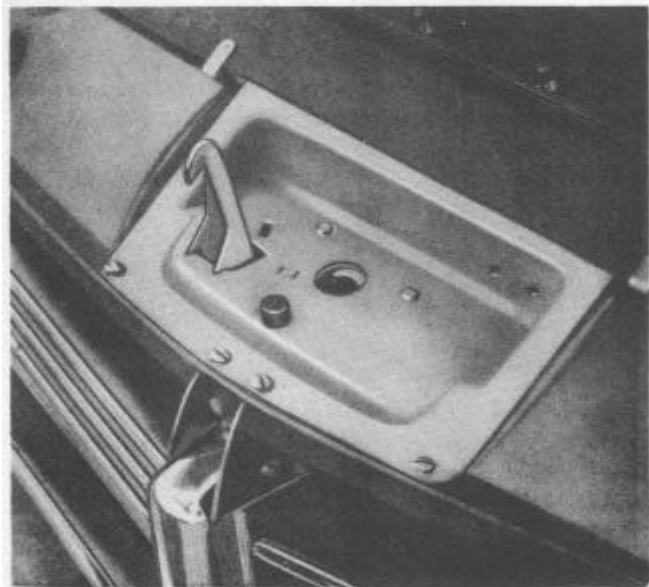

FIGURE 21
1. Remove the rear view mirror (A), Figure 21, and antenna control knob.
2. Remove antenna lead plug from radio. Loosen lock nut (C) at joint cover (E), and remove nut under dash attaching lead rod assembly at moulding joint cover (E). Lower the lead rod and detach from lead wire on control. Remove windshield inside center bar.
3. Remove antenna windshield inside center bar (D), moulding joint cover (E), upper and lower windshield garnish mouldings (H and F), and four steel windshield retainers (G and H).
2. Place rubber weatherstrip on new glass and place glass in the windshield opening from the inside of the car. 3. Maneuver glass into position by carefully lifting inside lower corner with a tapered wood wedge. Shim as required along bottom of weatherstrip and glass assembly to bring inner edge parallel to center bar. Locate shims so that they will not interfere with installation of windshield retainers (G and H), Figure 21.